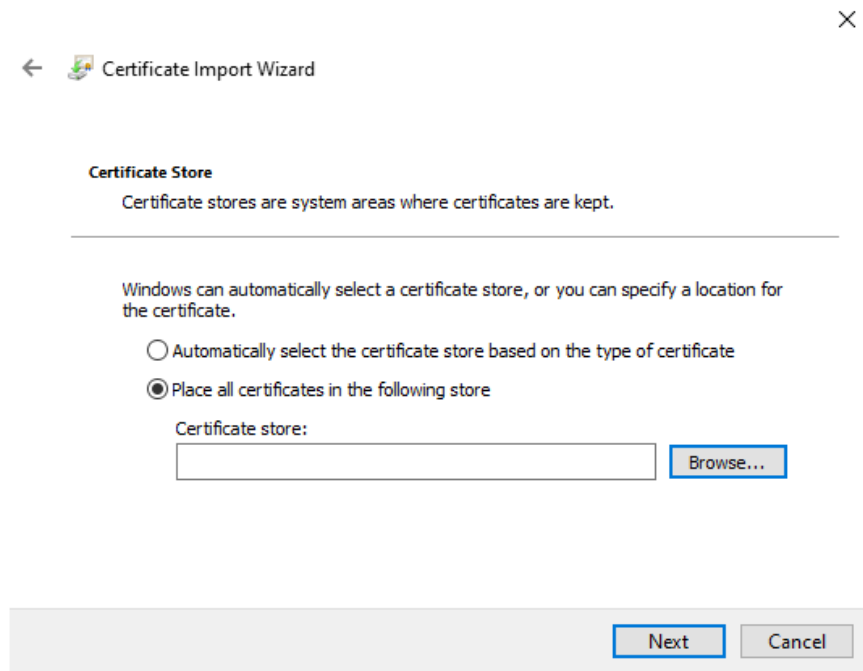

Figure 58: Specify Certificate to Import
8. Click **Next**. The dialog show in Figure 58 appears.